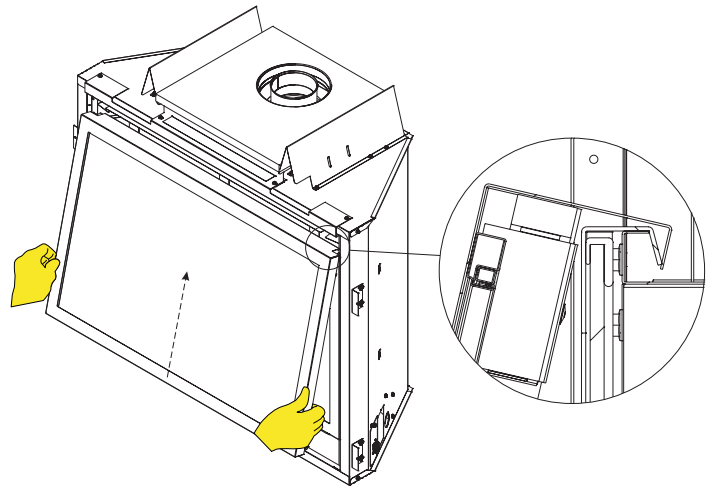

Figure 97
3. Angle barrier screen frame so the barrier screen bracket rests over the glass frame. **See Figure 97.**